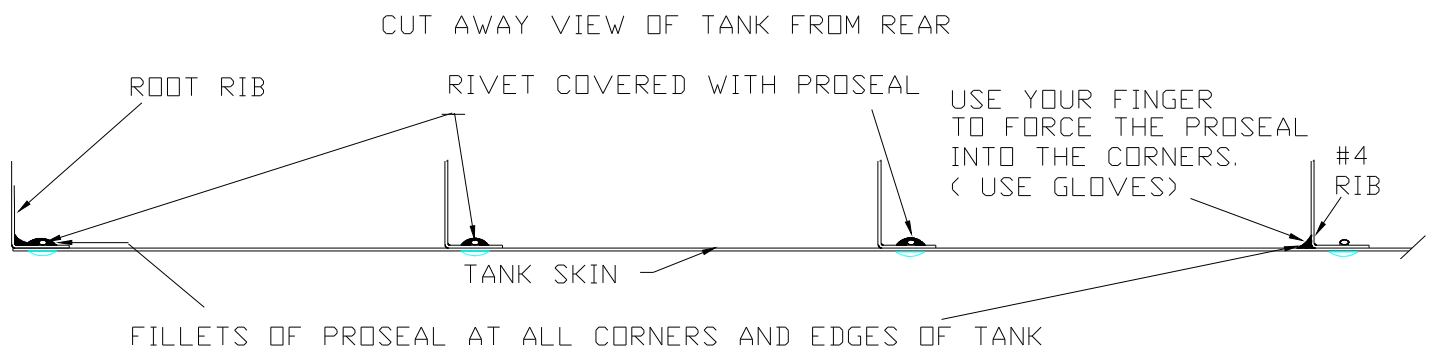

Figure 10.11.4
- 32) Fillet all corners and edges with Proseal. Pay close attention to the corners where the Ribs, Bulkheads and Spars meet and where the Stringer goes through the #4 Solid Rib. Figure 10.11.4.